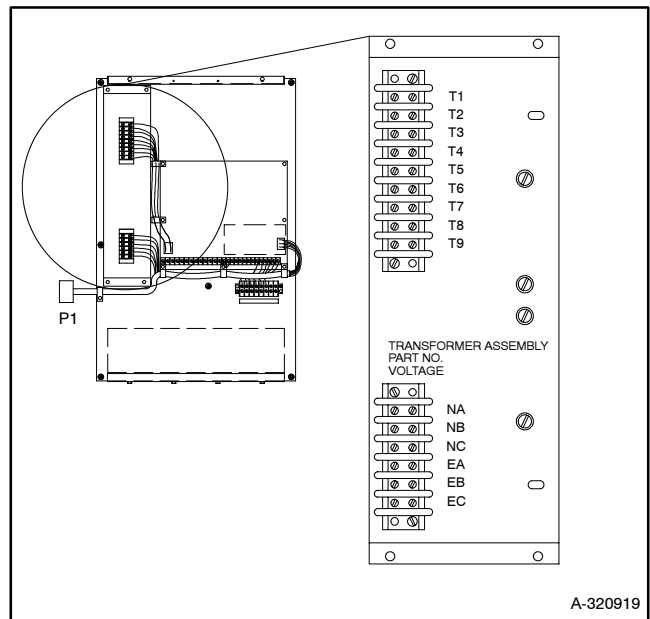

Figure 1 Typical Transformer Assembly and Location on the Inner Panel
4. Disconnect the power switching device and the controller at the inline disconnect plug P1. See Figure 1.
6. Locate the transformer assembly on the inner panel. See Figure 1.
10. Reconnect the power switching device and the controller at the inline disconnect plug P1. See Figure 1.